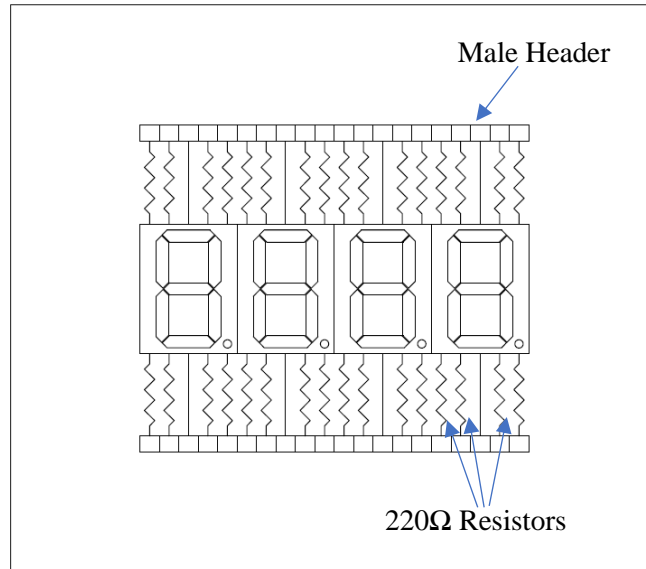

Figure 12-5: 7-Segment Displays common circuit on Learning Board
STEP 2: Refer Figure 12-5 and study the circuit diagram and its connections. (Proteus simulation circuit diagram too is provided for user's ease of understanding the circuit and as an assistance to conduct simulations using Proteus software)